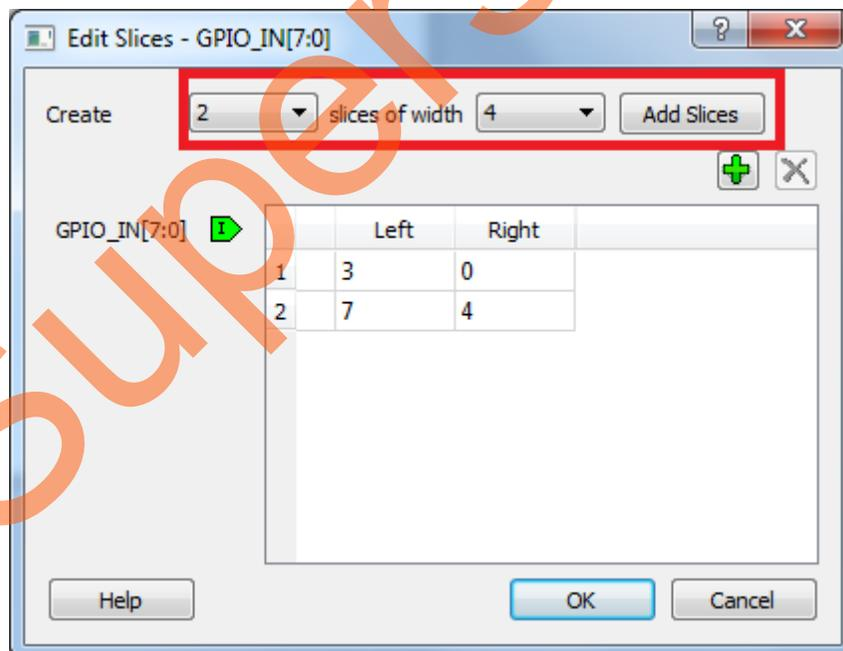

Figure 31 • Edit Slices
24. Select **2 slices of width 4**, click **Add Slices**, and edit the window as shown in Figure 31.